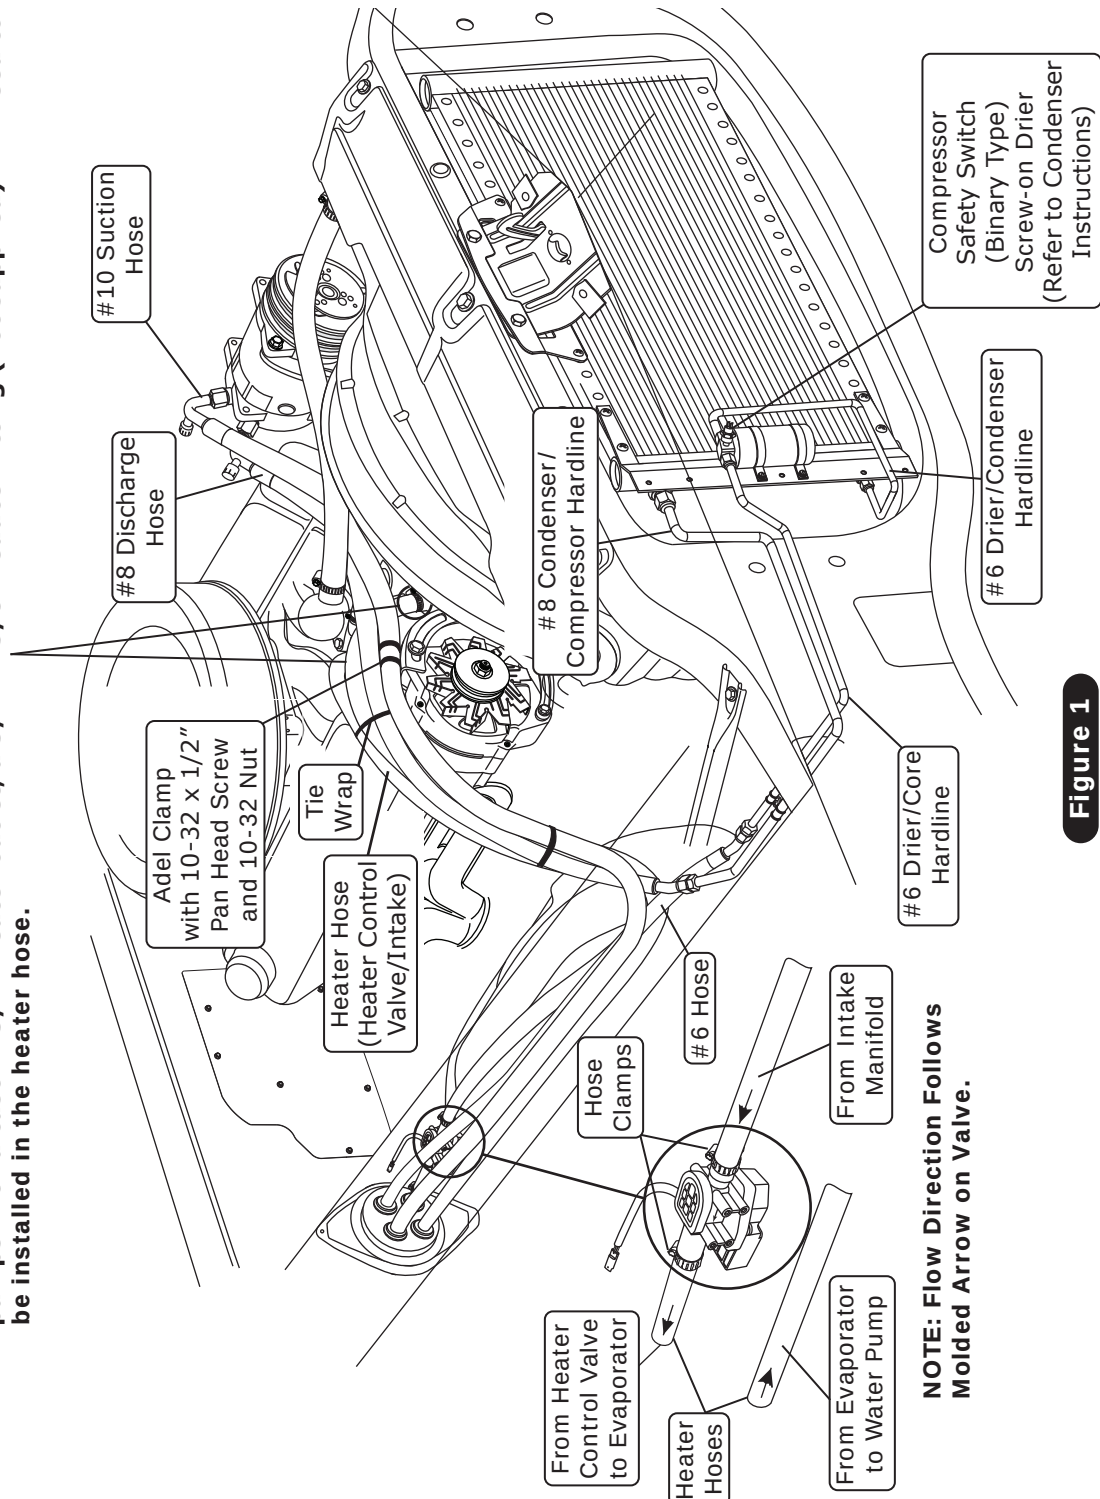

Figure 1
2. Route a piece of heater hose from the intake to the lower heater core fitting as shown in Figure 1, below.
NOTE: Install the heater control valve in line with the intake manifold (pressure side) heater hose, and secure it using hose clamps as shown in Figure 1, below. Also note proper flow direction.